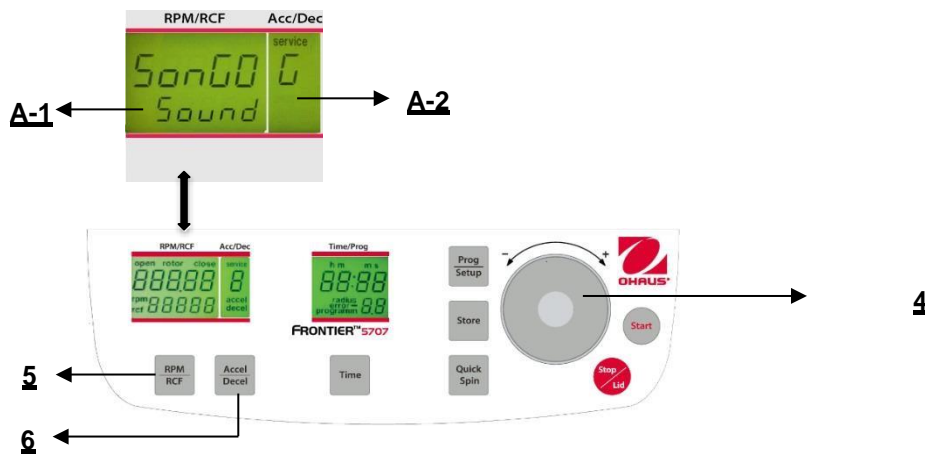

Figure. 31
Proceed as described under point 4.1.2 to enter this program mode and then press the key "Accel/Decel" (6). In the display "Acc/Dec" (A-2) the word "Service" flashes. Now select the letter "G", with the adjusting dial (4). As a result, in the display "RPM/RCF" (A-1), the word "SonGo/Sound" appears. After pressing the key "RPM/RCF" (5), you can select a song with the adjusting dial (4). (See figure 31).